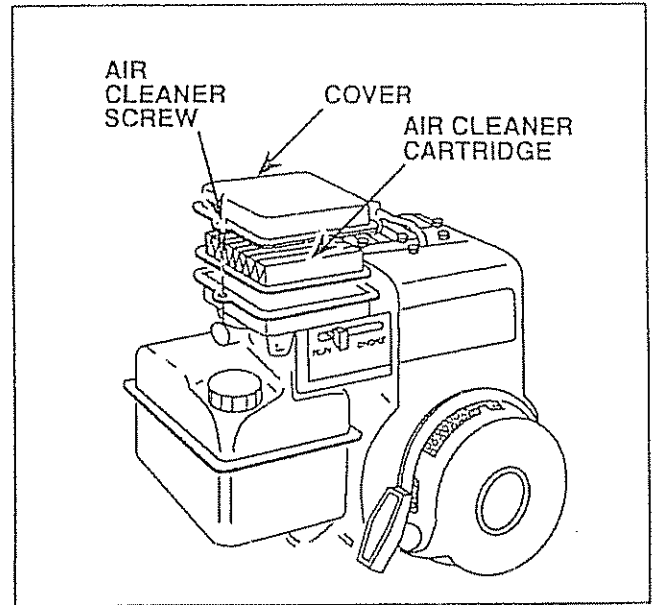

FIGURE 15
- Loosen Air Cleaner Screws, one on each side of Cover (Fig. 15).